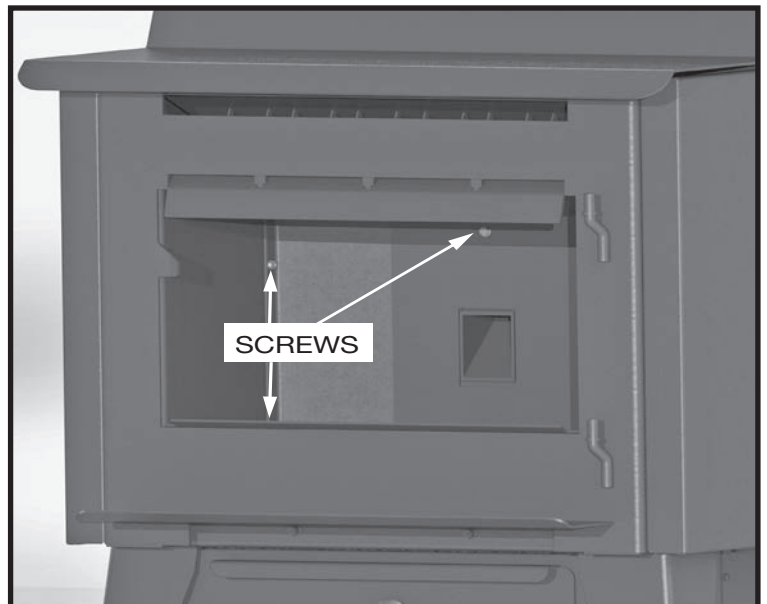

Figure 5: Firebox Liner removal.
- Using penetrating oil and a ratchet with a 5/16" socket, remove a total of five screws securing both sides of the Firebox Liner to the firebox (Figure 5).